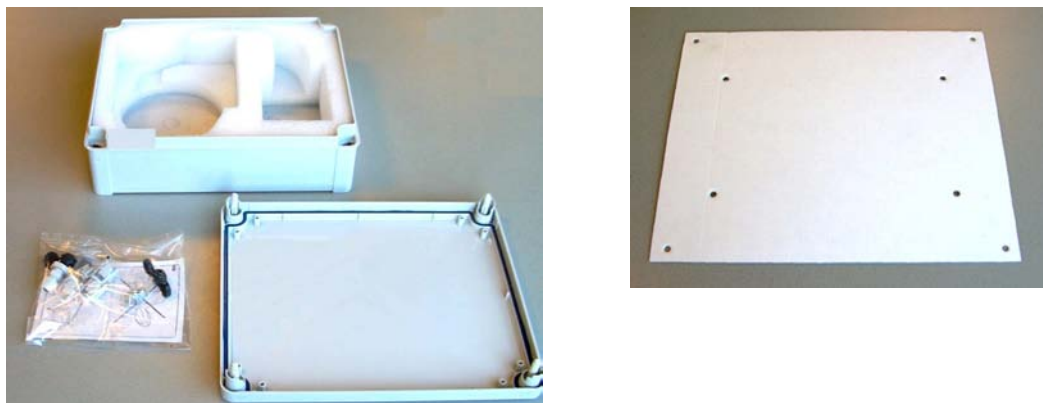

Figure 12. Contents of the box.
2. Remove the cover from the cabinet. The contents of the cabinet is shown in Figure 12. Contents of the box.